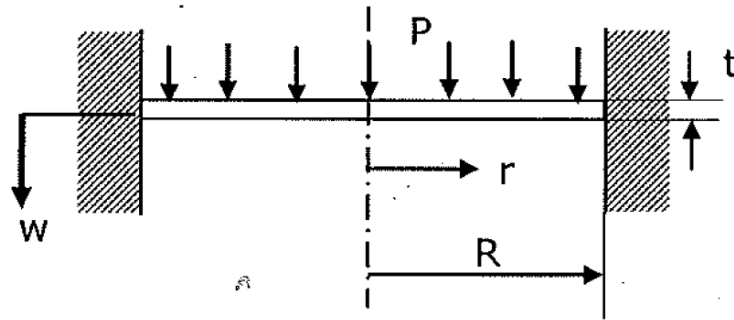

Figure Q3
- Q3. A circular plate uniform thickness t and radius R is rigidly clamped around its outer edge and loaded by a uniform transverse pressure P as shown in Figure Q3. The transverse displacement w can be approximated by the following function: